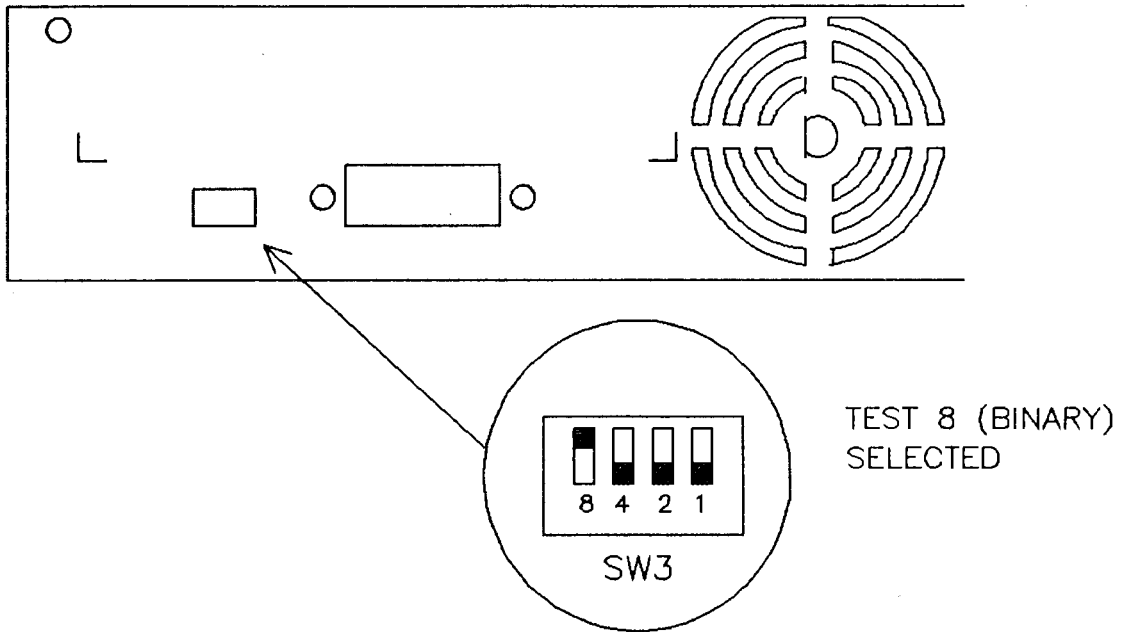

FIGURE 4-3
3. Set the HP-IB ADDRESS switch to the desired test number(see figure 4-3).